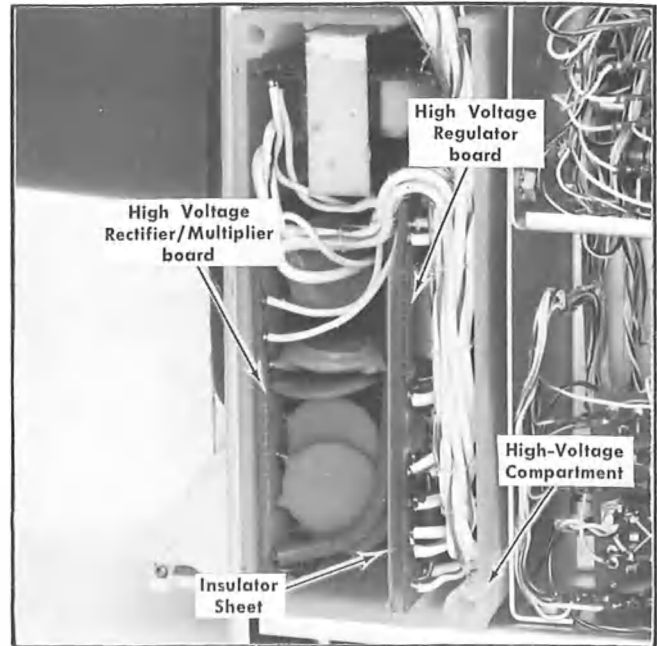

Fig. 4-6. Location of circuit boards in high-voltage compartment.
7. To replace the high-voltage compartment, reverse the order of removal. When placing the circuit boards back into the compartment, be sure the insulator sheet is installed in the proper place. Fig. 4-6 shows the correct location of the circuit boards and the insulator sheet.